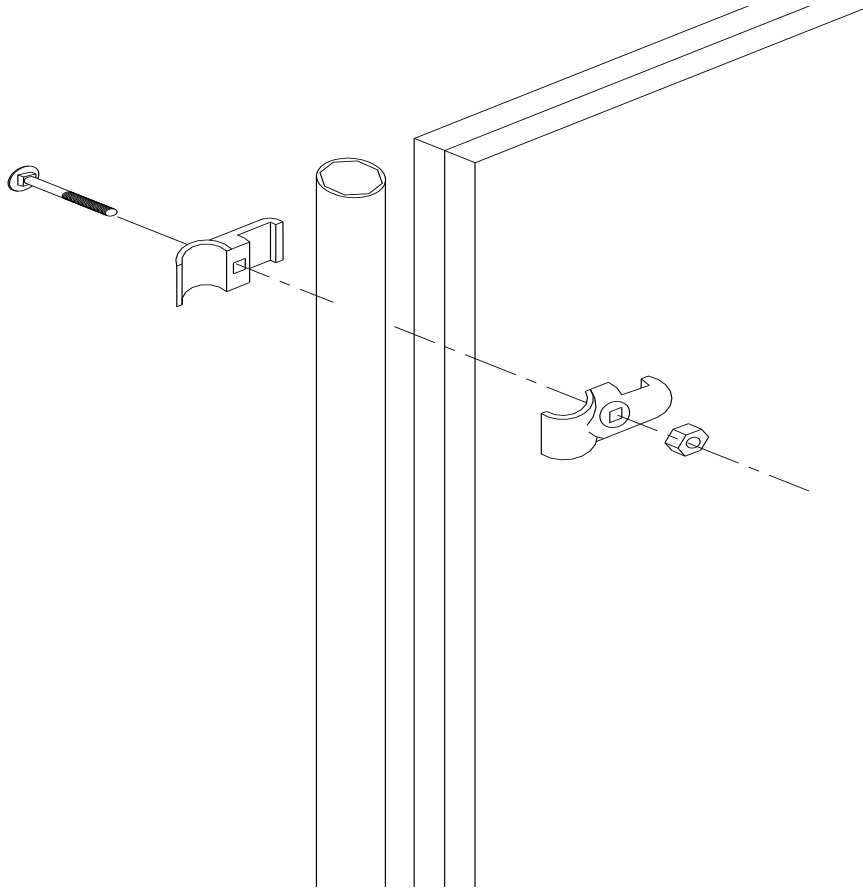

Figure F.1
1. Attach the filler pipes to the front end of each division panel with two Square-Round clamps (it takes two halves to make up one clamp) approximately 6" from either end of the filler pipe using the 5/16" x 1-3/4" carriage bolts and 5/16" nuts provided (Figure F.1).